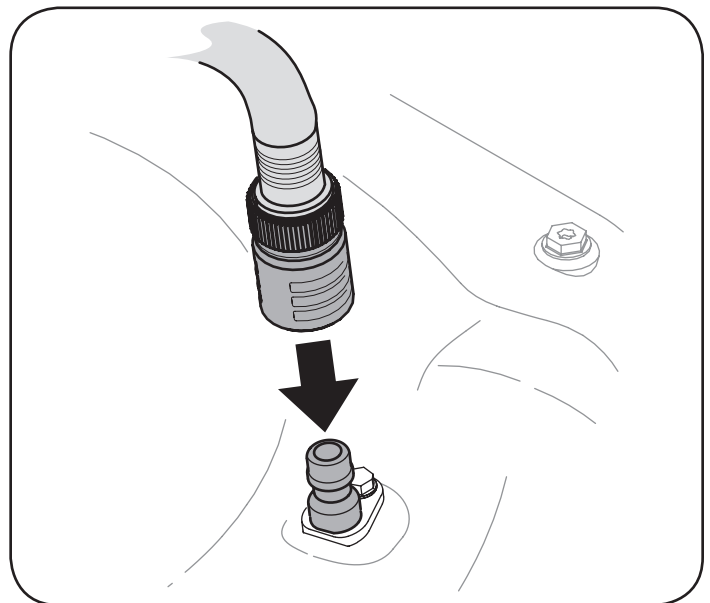

Figure 19
3. Attach garden hose with the deck wash nozzle to the water port on your deck's surface. See Figure 19.